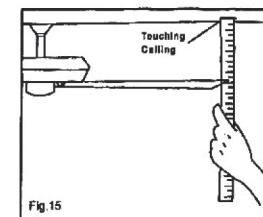

Fig 15
5. Most fan wobble problems are caused when blade levels are unequal. Check this level by selecting a point on the ceiling above the tip of one of the blades. Measure this distance as shown in Figure 15. Measurements should always be within 1/8". Rotate the fan until the next blade is positioned for measurement. Repeat for each blade.